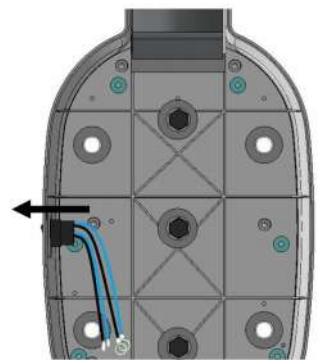

Figure 96
- Remove the switch from the base unit by pushing it out from the rear cover of the base unit as shown in Figure 96 .